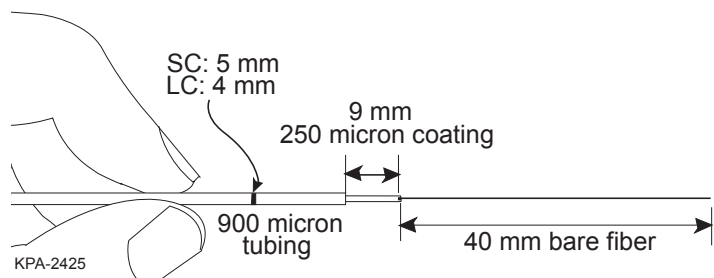

Figure 7 — Remove Cable Sheath
- Step 5:** Measure and mark the furcation tubing (Figure 7).